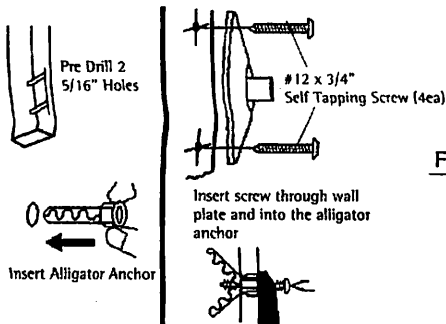

Figure 8
2. Drill holes in the drywall using a 5/16" drill bit (Figure 8).
3. Once the holes are drilled, insert the alligator anchor into the holes. Make sure the anchor is flush with the wall and/or ceiling surface (Figure 8).
4. With the anchors in place, mount the wall plates using the #12 x 1-3/4" self tapping screws (Figure 8).